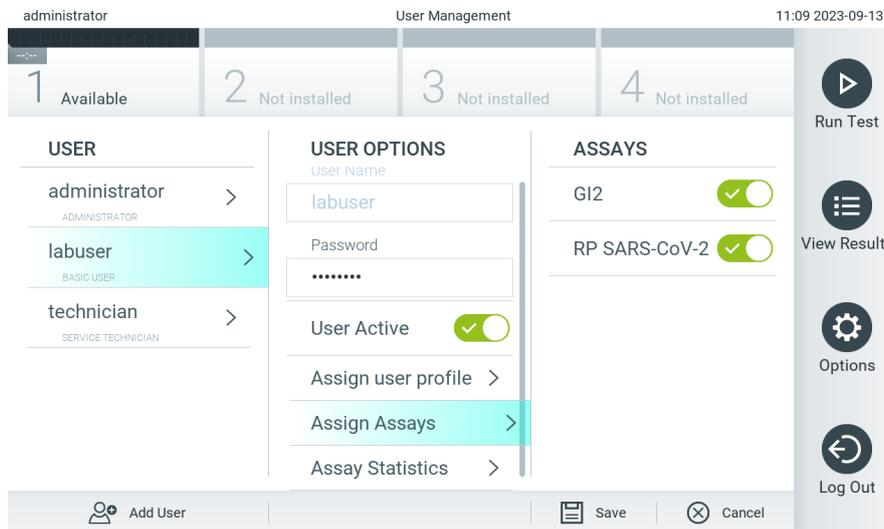

Figure 53. Assigning assays to users.
- **Assign Assays**: Allows defining the assays from the assay database that the user is permitted to run. Select the assays from the list on the right of the content area (Figure 53)